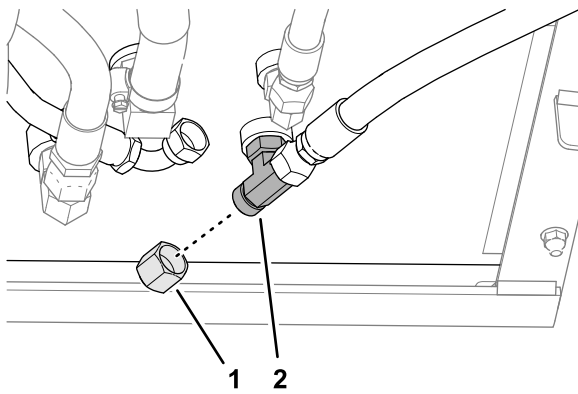

Figure 21
2. Install the cap onto the T-fitting, as shown in Figure 21.